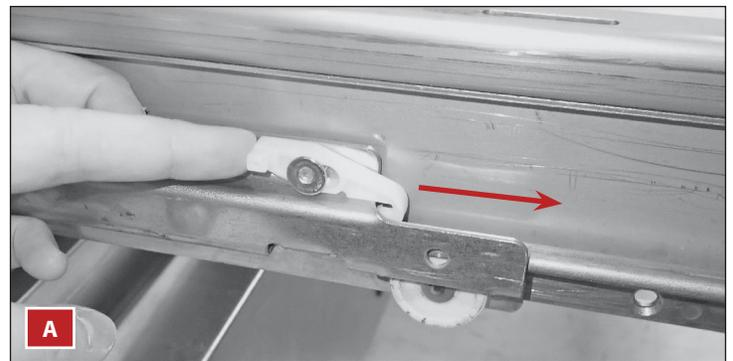

Fig. 2a. Push the retainer forward.
2. Push the plastic drawer retainer forward and raise the front end. See figs. 2a and 2b.